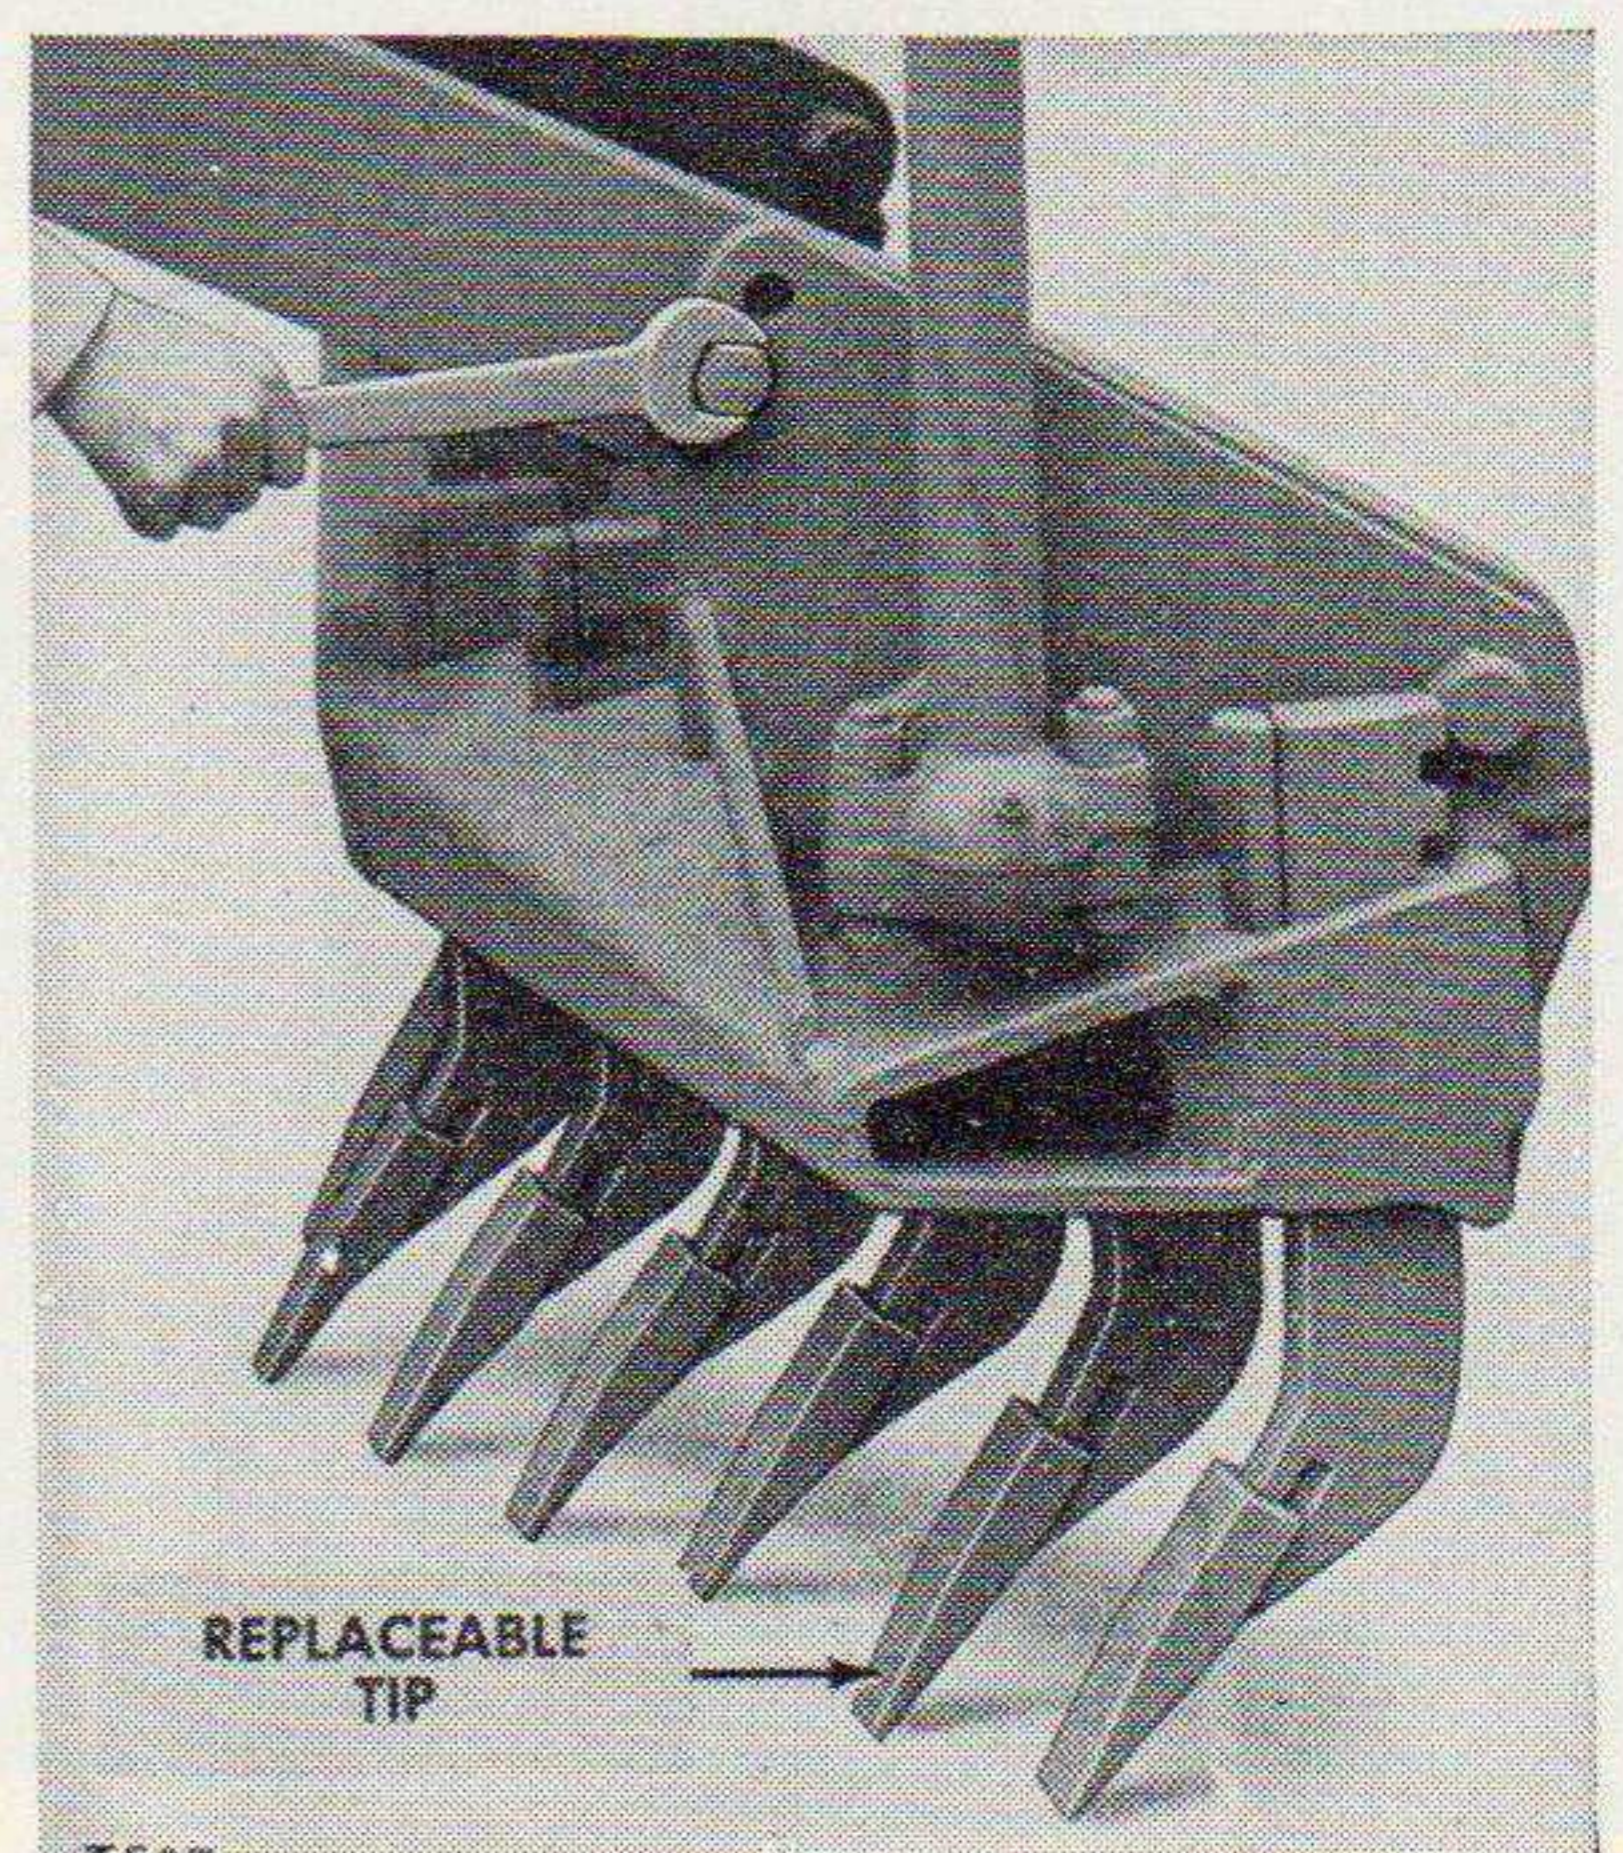

Figure 48. Tooth pitch adjustment.
(2) *Tooth pitch adjustment.* (See fig. 48.)